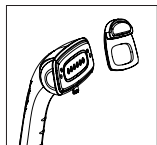

Figure 17
- Attach the lint brush by lining up the lint brush notches with the holes on the steam nozzle. Gently push into place (Figure 17).